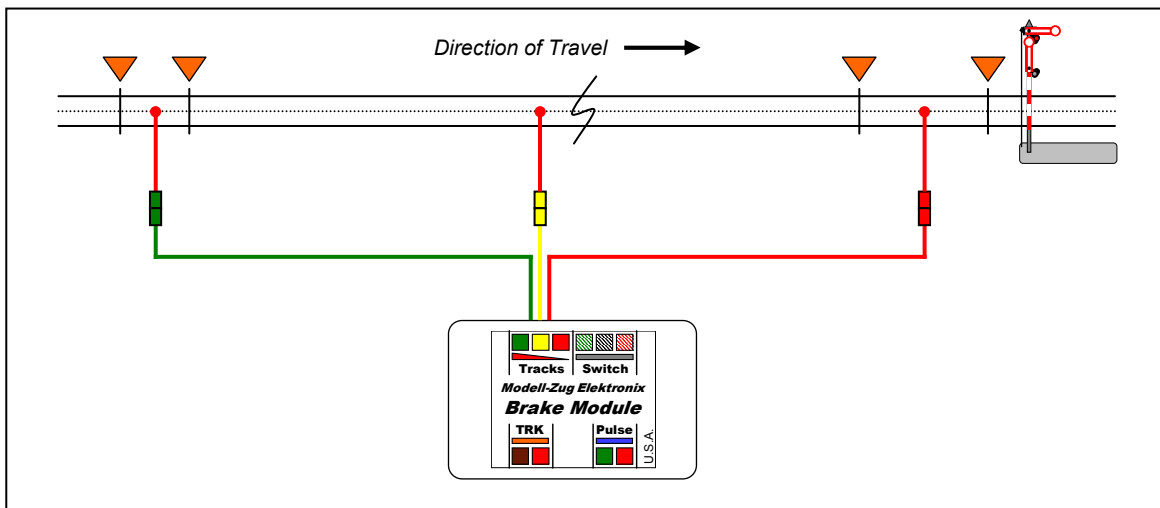

Figure 2. Track Block Connections
1. Be sure that all power to the layout is switched OFF. Connect the *Brake Module's* Tracks output set to the corresponding track blocks created in Section 3.1, referring to Figure 2 below: